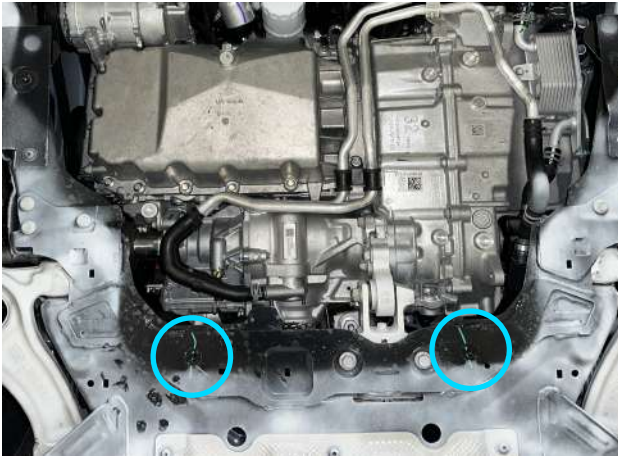

Fig. 1
1. Loosely install factory bolts into factory threaded mounting points as shown in Fig. 1